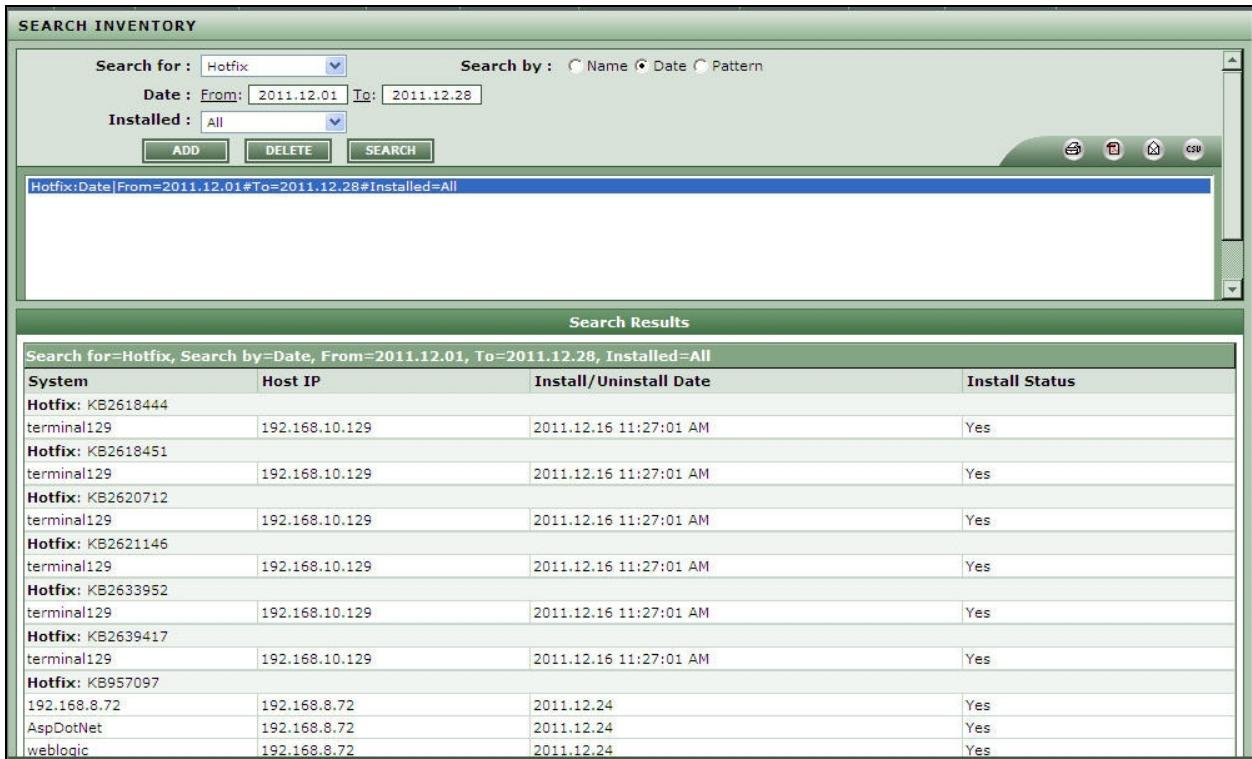

Figure 2.32: Inventory search of a hotfix through date wise
- **Date**: Select this option if you want to search for those hotfixes that were installed and/or uninstalled, during a specified period as depicted in Figure 2.32. If this option is chosen, then, you will be required to specify the time period for the search using the **From** and **To** calendar controls against **Date**. To search for only those hotfixes that were installed during the indicated period, set the **Installed** flag to **Yes**. To search for only those hotfixes that were uninstalled during the indicated period, set the **Installed** flag to **No**. To search for all hotfixes, whether installed or uninstalled during the specified period, set the **Installed** flag to **All**.